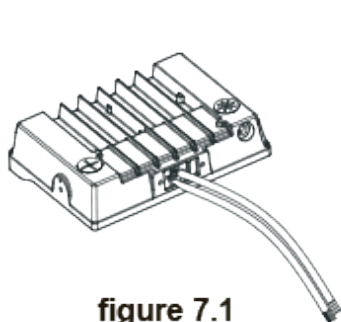

figure 7.1
Step 1: Take the lamp out of package; (Figure 7.1)